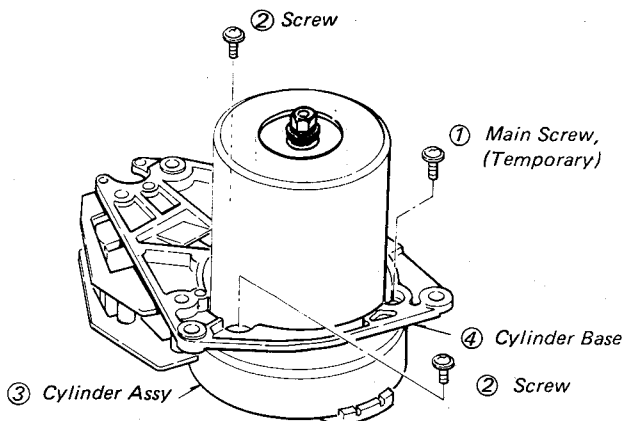

Fig. 5-76 Cylinder Base Removal and Installation.
11. In turn, remove the three screws ① and ② and take out the cylinder assembly. (see Fig. 5-76.)
12. In turn, replace the cylinder assembly and disk motor rotor and stator as follows. Also, refer to Figs. 5-76, -77, and -78.
- a. Remove the screws ① and ② and take out the cylinder assembly ③ (see Fig. 5-76).
- i. Lightly tighten the screws ① and ② in Fig. 5-76.
- ii. Press the cylinder base ④ toward the clockwise direction and tighten the screws ① and ②.
- b. Loosen the nut ⑬, remove it.
- c. Remove the spring washer ⑫.
- d. Remove the washer ⑪.
- e. Remove the Rotor ⑩.
- f. Disconnect 3-pin connector ④ from the stator ⑧.
- g. Loosen two screws ⑨ and remove the stator ⑧.